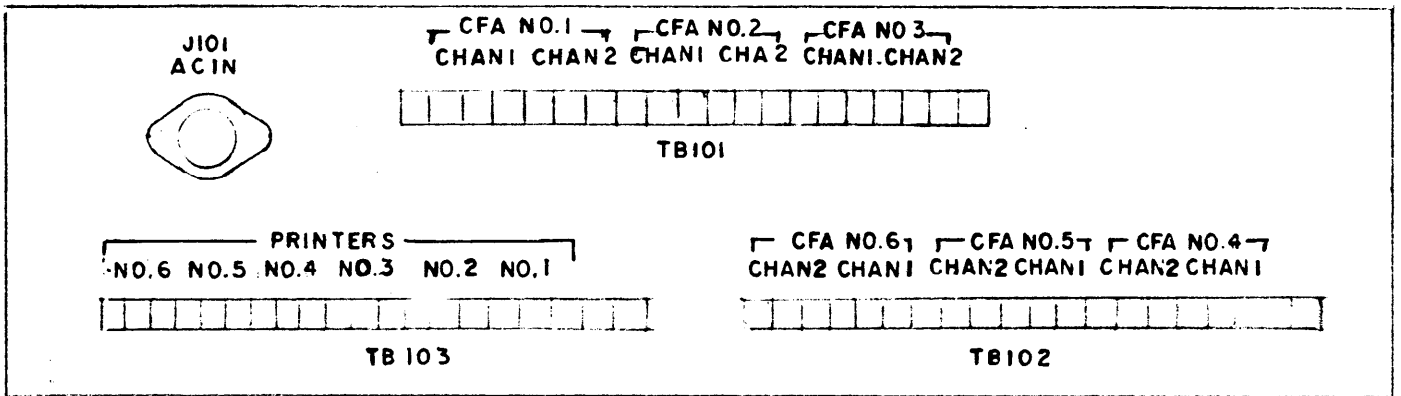

Figure 2-1
The SYM-5213 is designed for 115 or 230 volts $\pm 10\%$, 50 to 60 Hz single phase AC power. On the rear of the RACK (see figure 2-1), an AC input connector is located on the interface panel. When AC power is connected to input J101 (AC in) the units assembled in the rack will have AC power potential. Individual front panel AC power switches must be activated for unit operation.
The SYM-5213 is designed to house (6 CFA's), prime considerations when installing the SYM-5213 are: adequate ventilation, sufficient space to withdraw the units for servicing. The CFA-2 is designed for rack mounting. The CFA-2 (6) is equipped with a standard 19 inch front panel and is 3½ inches high and 16 inches deep. Figure 7-1 describes all connections that exist in the system. The Interface panel (figure 2-1) is positioned on the rear of the rack so as to receive all external interfacing that may be required when operating the SYM-5213.